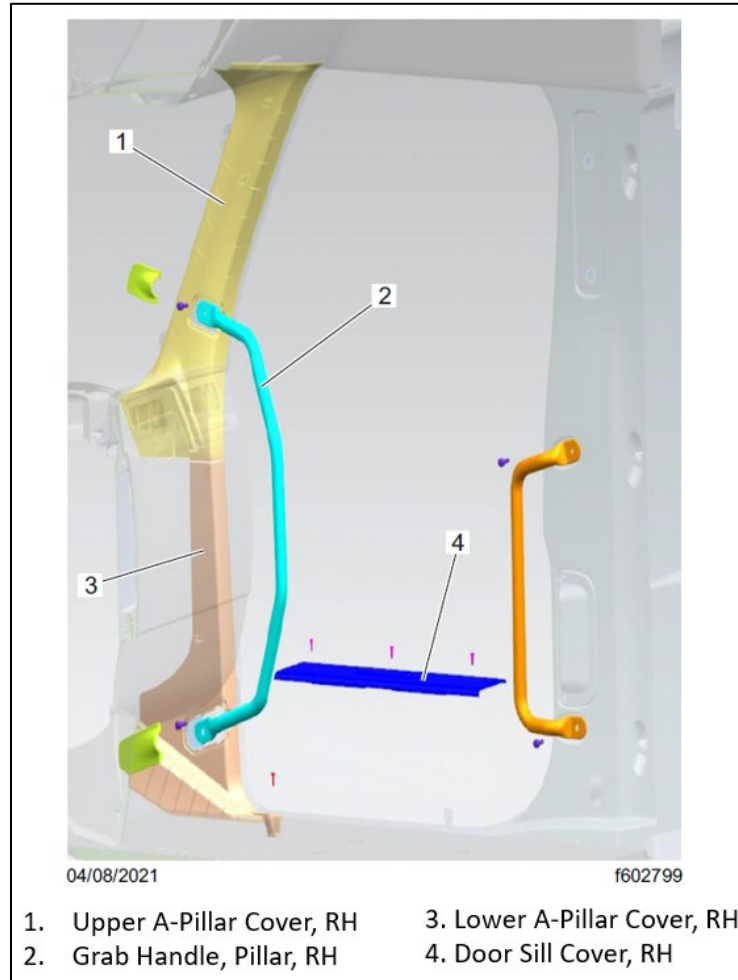

Fig. 33, A-Pillar Door Sill, Grab Handle, and Upper and Lower Cover Locations
1. At the RH side A-pillar, remove the door sill cover, grab handle, and upper and lower pillar covers. See Fig. 33.